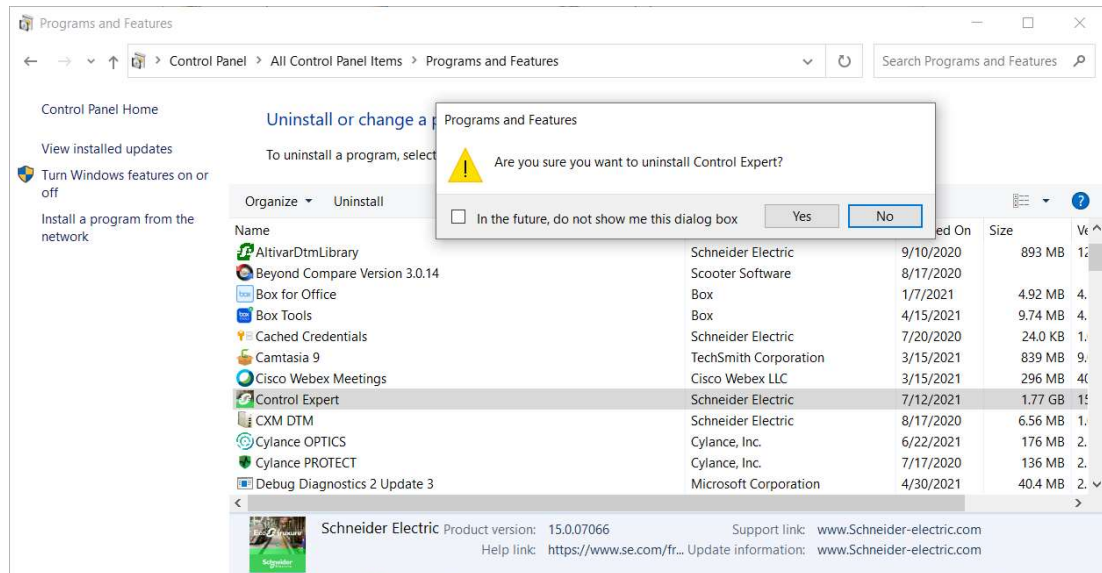

Figure 3
- Click on Yes (See Figure 3.) to start the uninstall.